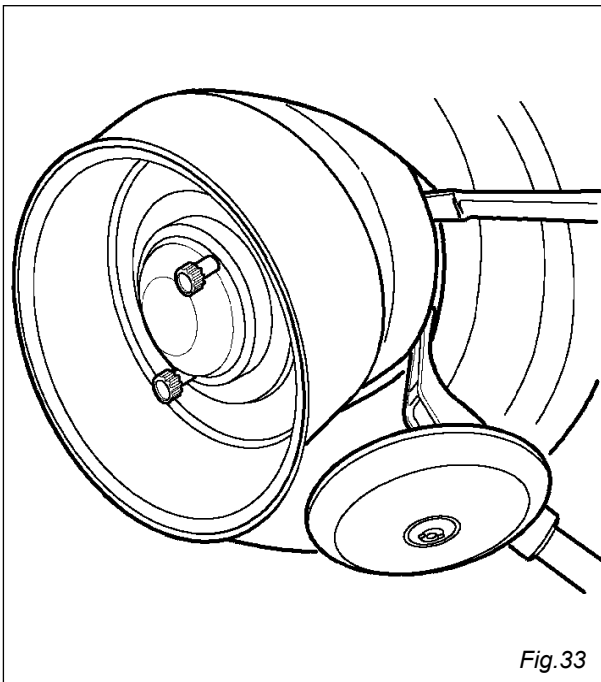

Fig.33
13) Insert lever between rim and bead at the right of the tool (Fig.33)